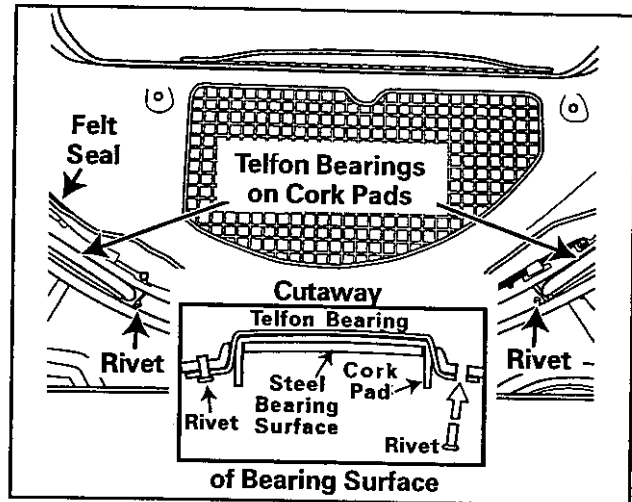

Figure 10-5
- Drill out the old rivets and rivet new bearings in place. In positioning the bearing and cork pad, the face of the bearing should ride against the tumbler (Figure 10-5).